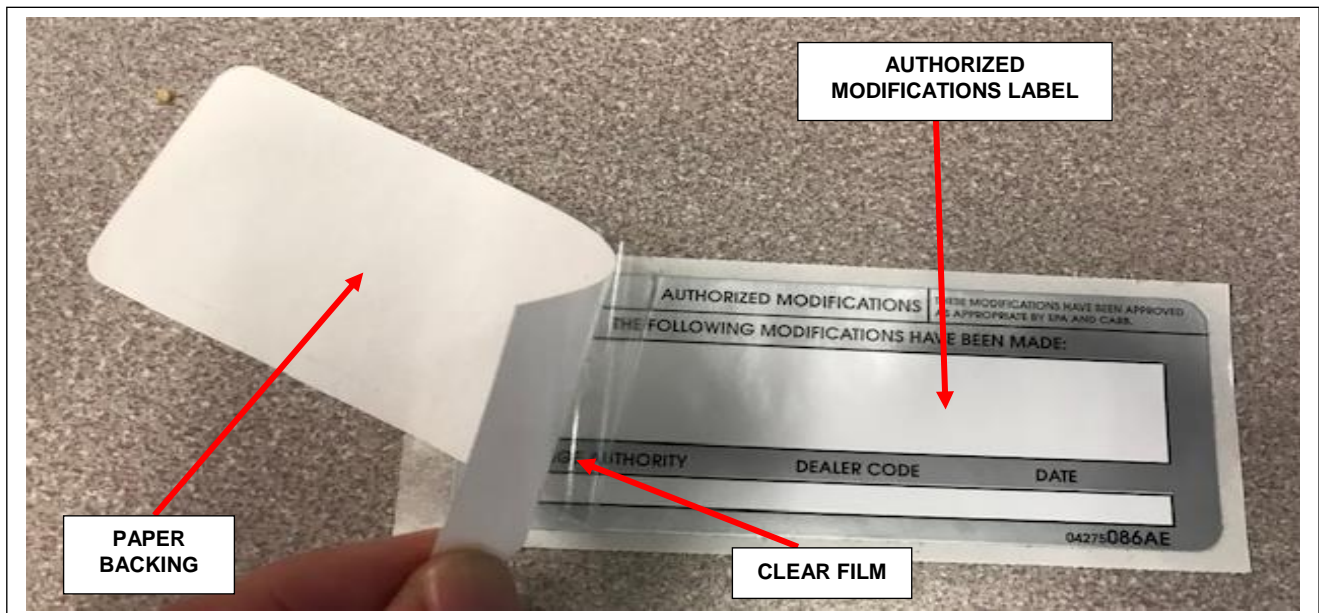

Figure 2 – Remove Backing from the Clear Film
- 44. Remove the paper backing from the clear film on the front of the Authorized Modifications Label then carefully apply the clear film over the front of the completed Authorized Modifications Label (Figure 2).